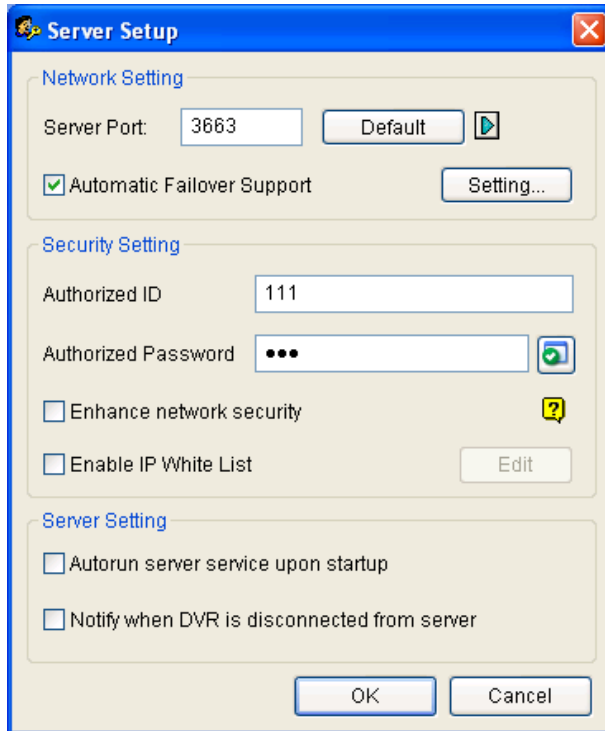

Figure 11-28 Sever Setup
3. Enter the IP address and port of the Authentication Server. Type the **Authorized ID** and **Authorized Password** of the Authentication Server (Figure 11-28).